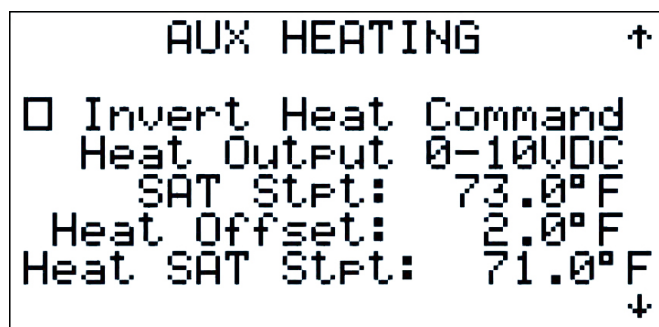

Figure 55
2.3.3.2.2 Air Heat Settings (Figures 55 - 57)
Selecting AIR HEAT SETTINGS from the Tuning Menu displays the AUX HEATING screen shown in Figure 55. From this screen the user can invert the heating command by checking the box towards the top. Directly below the heat output